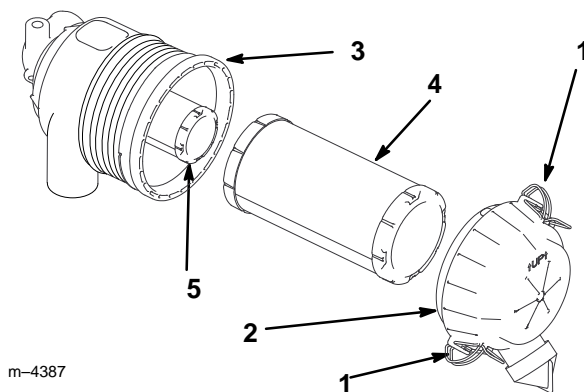

Figure 17
2. Release the latches on the air cleaner and pull the air cleaner cover off of the air cleaner body (Fig. 17).
4. Gently slide the primary filter out of the air cleaner body (Fig. 17). Avoid knocking the filter into the side of the body. Do not remove the safety filter, unless you intend to replace it as well.
2. If the safety filter is being replaced, carefully slide it into the filter body (Fig. 17).
3. Carefully slide the primary filter over the safety filter (Fig. 17). Ensure that it is fully seated by pushing on the outer rim of the filter while installing it.
4. Install the air cleaner cover with the side indicated as UP facing up and secure the latches (Fig. 17).